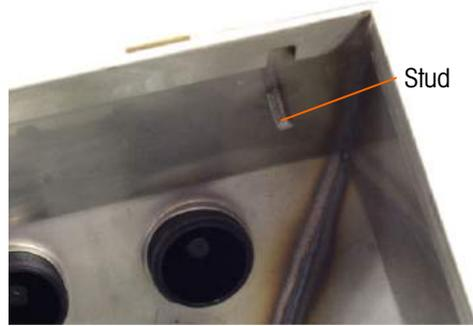

Figure A-10: Stud for Attaching Reversed Front Panel
4. Carefully rotate the rear of the enclosure 180 degrees and reattach the two grounding straps to the two studs near the grip bushings using the two nuts removed in the previous step. Figure A-10 shows one of the studs. Tighten the two nuts.